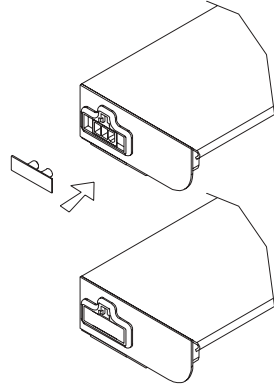

Figure 9
- A Connection Cover has been provided and is optional for use to cover connections at either end of the fixture(s) that are not being used. See Figure 9.